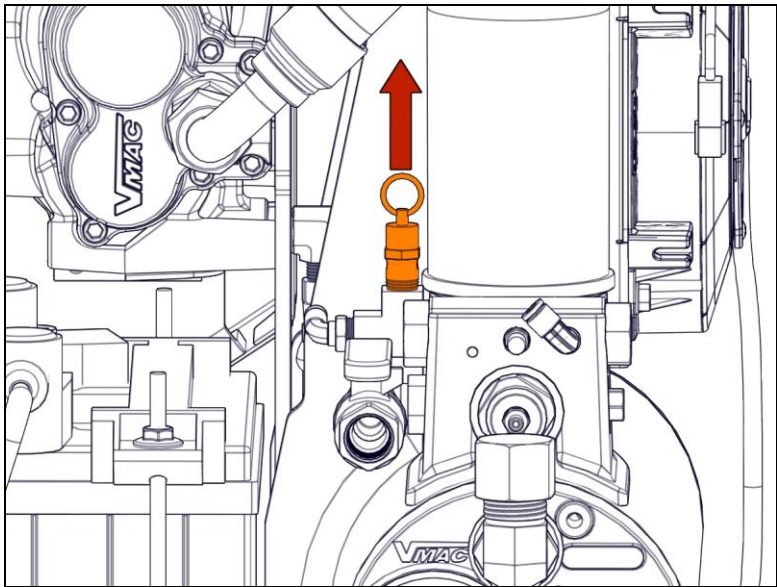

Figure 34 – Pressure relief valve (Shroud removed for clarity)
- 3) Pull on the pressure relief valve ring to ensure the system is depressurized (Figure 34).